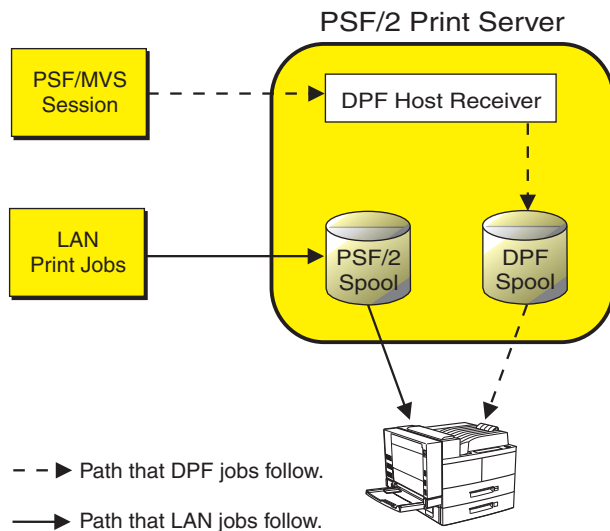

Figure 8. Job flow in PSF for OS/2 Print Server for DPF and LAN print jobs
**Spool configuration:** The spool configuration in Infoprint Manager is much more versatile than it was in PSF for OS/2. In PSF for OS/2, each host receiver had its own spool and print queue. In addition, if you wanted to accept print from the LAN, you had to configure a separate spool. Refer to Figure 8 for an illustration.